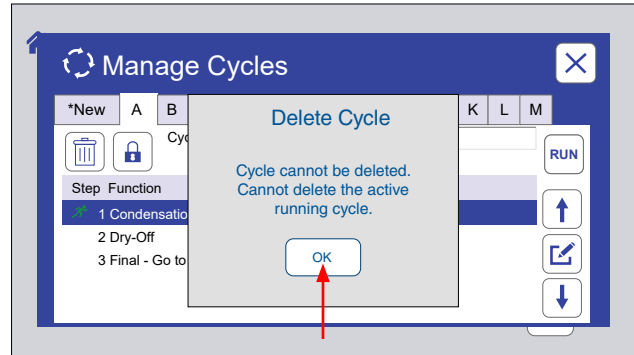

Figure 8.7.2b: The active running cycle cannot be deleted. Touch OK to clear message.
- An actively running cycle cannot be deleted (Figure 8.7.2b).